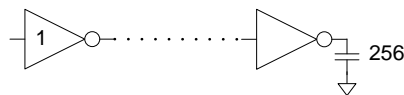

Fig. 9
9. Design a tapered buffer to drive a 256-unit loading (relative to C_{in} of unit inverter) as shown in Fig. 9. (5%)